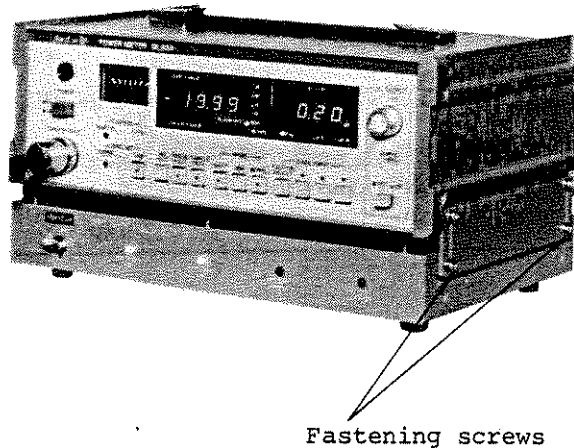

Fig. 4-2 Battery Pack Mounting
1.	Set the AC power switch (14) to the OFF position.
2.	Disconnect the AC power cord from the AC power receptacle (24).
3.	Attach the MZ95A battery pack under the ML83A power meter as shown in Fig. 4-2. (Loosen the battery pack fastening screws at both sides of the battery pack, insert them through the tapped holes on the both sides of ML83A, and tighten them down.)